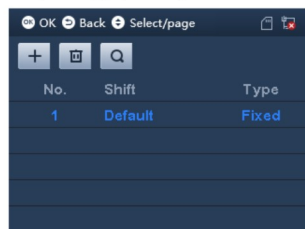

Figure 2-9
Select Shift>Shift Setup>Shift, click ③, see Figure 2-9.